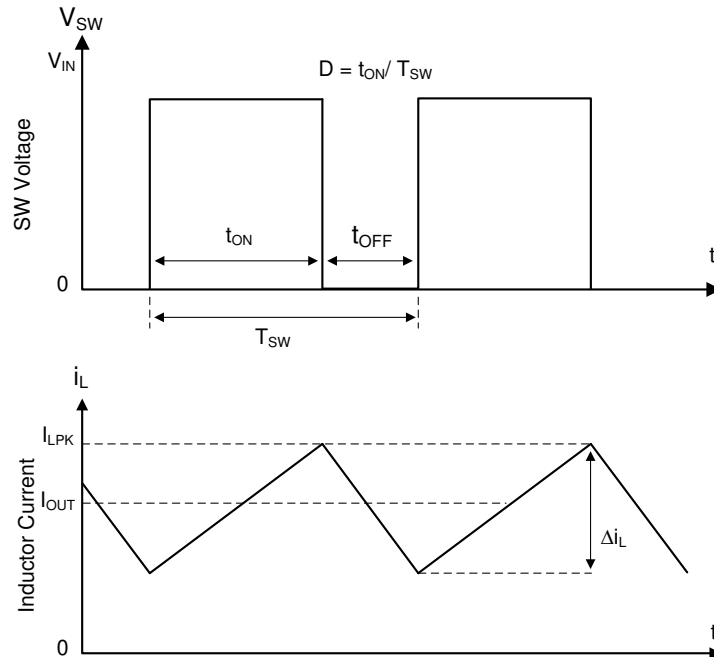

Figure 8-1. SW Node and Inductor Current Waveforms in Continuous Conduction Mode (CCM)
The following operating description of the LMR544xx refers to Section 8.2 and to the waveforms in Figure 8-1. The LMR544xx is a step-down synchronous buck converter with integrated high-side (HS) and low-side (LS) switches (synchronous rectifier). The LMR544xx supplies a regulated output voltage by turning on the high-side and low-side NMOS switches with controlled duty cycle. During high-side switch ON time, the SW pin voltage swings up to approximately V_{IN} , and the inductor current, i_L , increases with a linear slope of $(V_{IN} - V_{OUT}) / L$. When the high-side switch is turned off by the control logic, the low-side switch is turned on after an anti-shoot-through dead time. Inductor current discharges through the low-side switch with a slope of $-V_{OUT} / L$. The control parameter of a buck converter is defined as Duty Cycle $D = t_{ON} / T_{SW}$, where t_{ON} is the high-side switch ON time and T_{SW} is the switching period. The converter control loop maintains a constant output voltage by adjusting the duty cycle D . In an ideal buck converter, where losses are ignored, D is proportional to the output voltage and inversely proportional to the input voltage: $D = V_{OUT} / V_{IN}$.